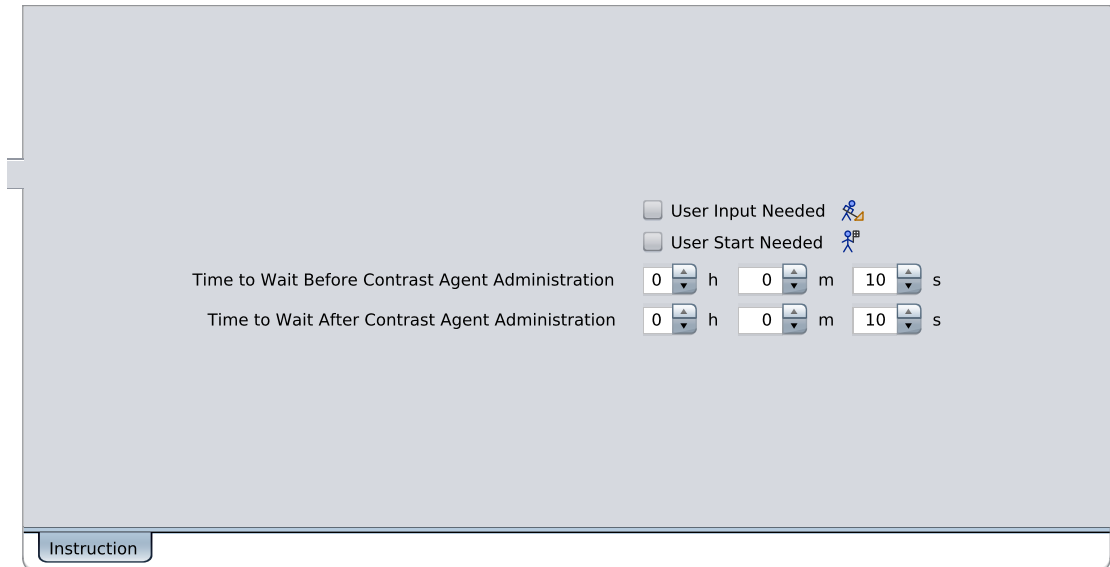

Figure 1.41: Contrast Agent Instruction Editor
- The editor (see [Figure 1.41 \[p 59\]](#)) for the selected contrast agent instruction is opened, if no other instruction is currently edited. If another instruction is currently edited and has been modified, a dialog (see [Figure 1.41 \[p 59\]](#)) is displayed. The dialog allows to save or discard the modifications for the currently edited instruction or to cancel the attempt to edit the contrast agent instruction. The following properties can be changed for a contrast agent instruction: